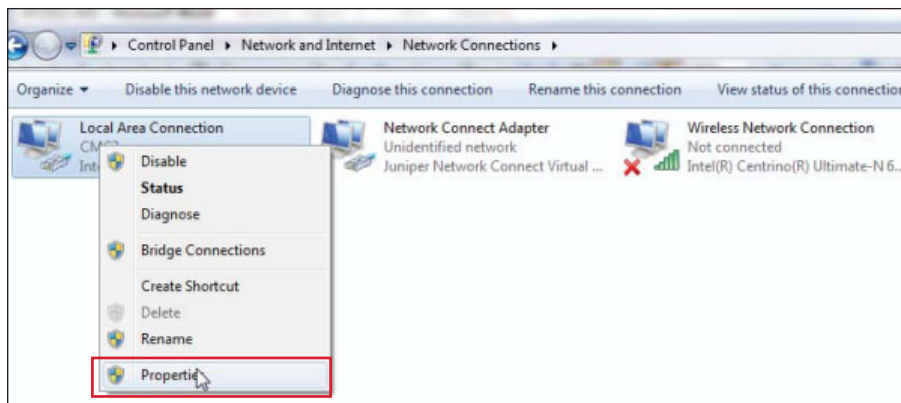

Fig. 2. Select Properties from the network that the SKF Multilog IMx units will use.
- Right-click on the network that the SKF Multilog IMx units will use and choose **Properties** (→ fig. 2).